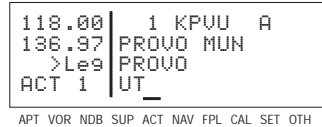

Figure 4-134
1. Pull the right inner knob to the “out” position and turn it to view each of the waypoints in the order they are contained in the flight plan (figure 4-134).